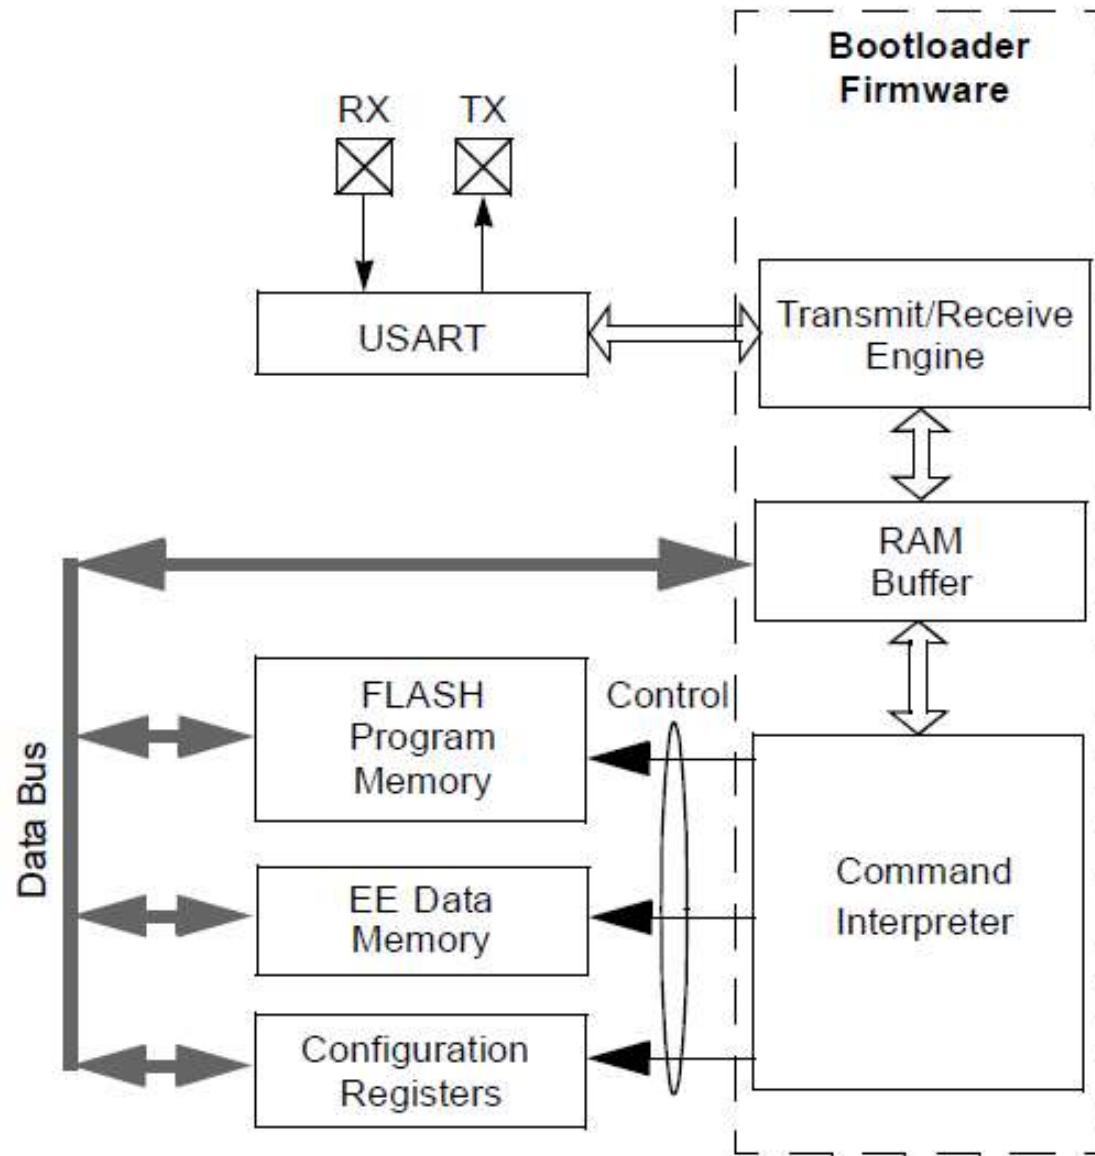

Figure 1: Bootloader Functional Block Diagram
- Figure 1 summarizes the essential firmware design of the bootloader.